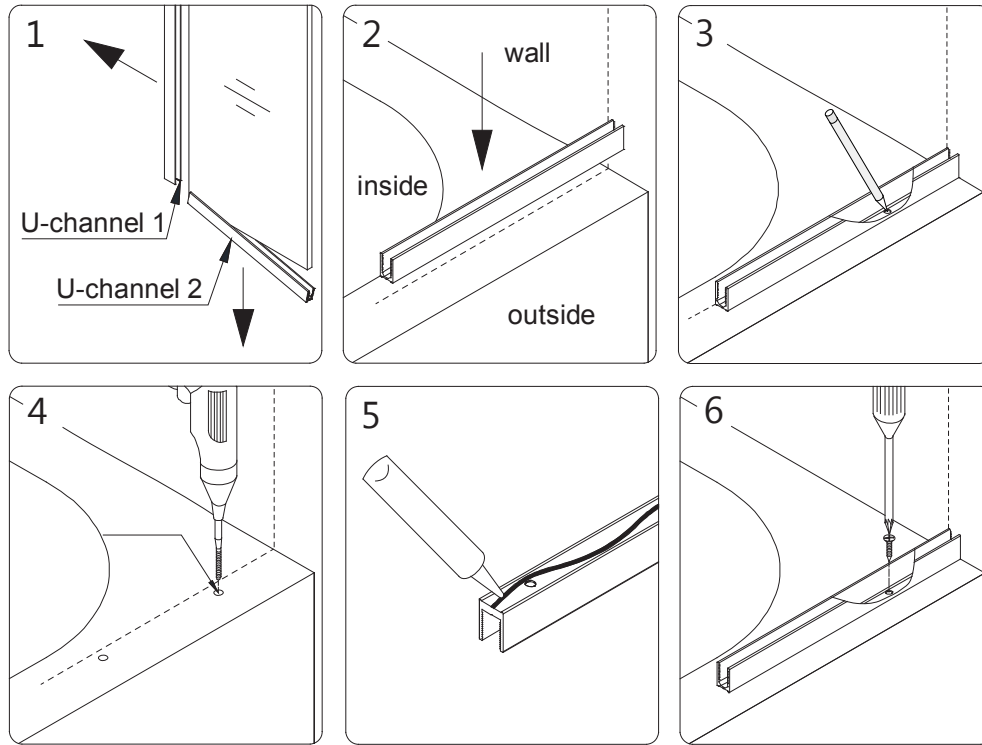

Fig 3
2. Remove the U-Channel 1 (wall profile) (#01) and U-Channel 2 (bottom profile) (#02) from the Extender Panel Glass (#03) and carefully set the Extender Panel Glass (#03) aside. Place the **U-Channel 2 (bottom profile) (#02)** back onto the tub surface in line with the inside U-Channel mark. Mark the drill holes on the tub surface through the pre-drilled holes in the **U-Channel 2 (bottom profile) (#02)** and drill the holes using an $\text{Ø}1/8''$ drill bit. Apply waterproof silicone along the bottom surface and around the holes of the **U-Channel 2 (bottom profile) (#02)** and fasten it to the tub surface with the **Countersunk Screws ST4.2×25 (#06)**. **(Fig 3)**